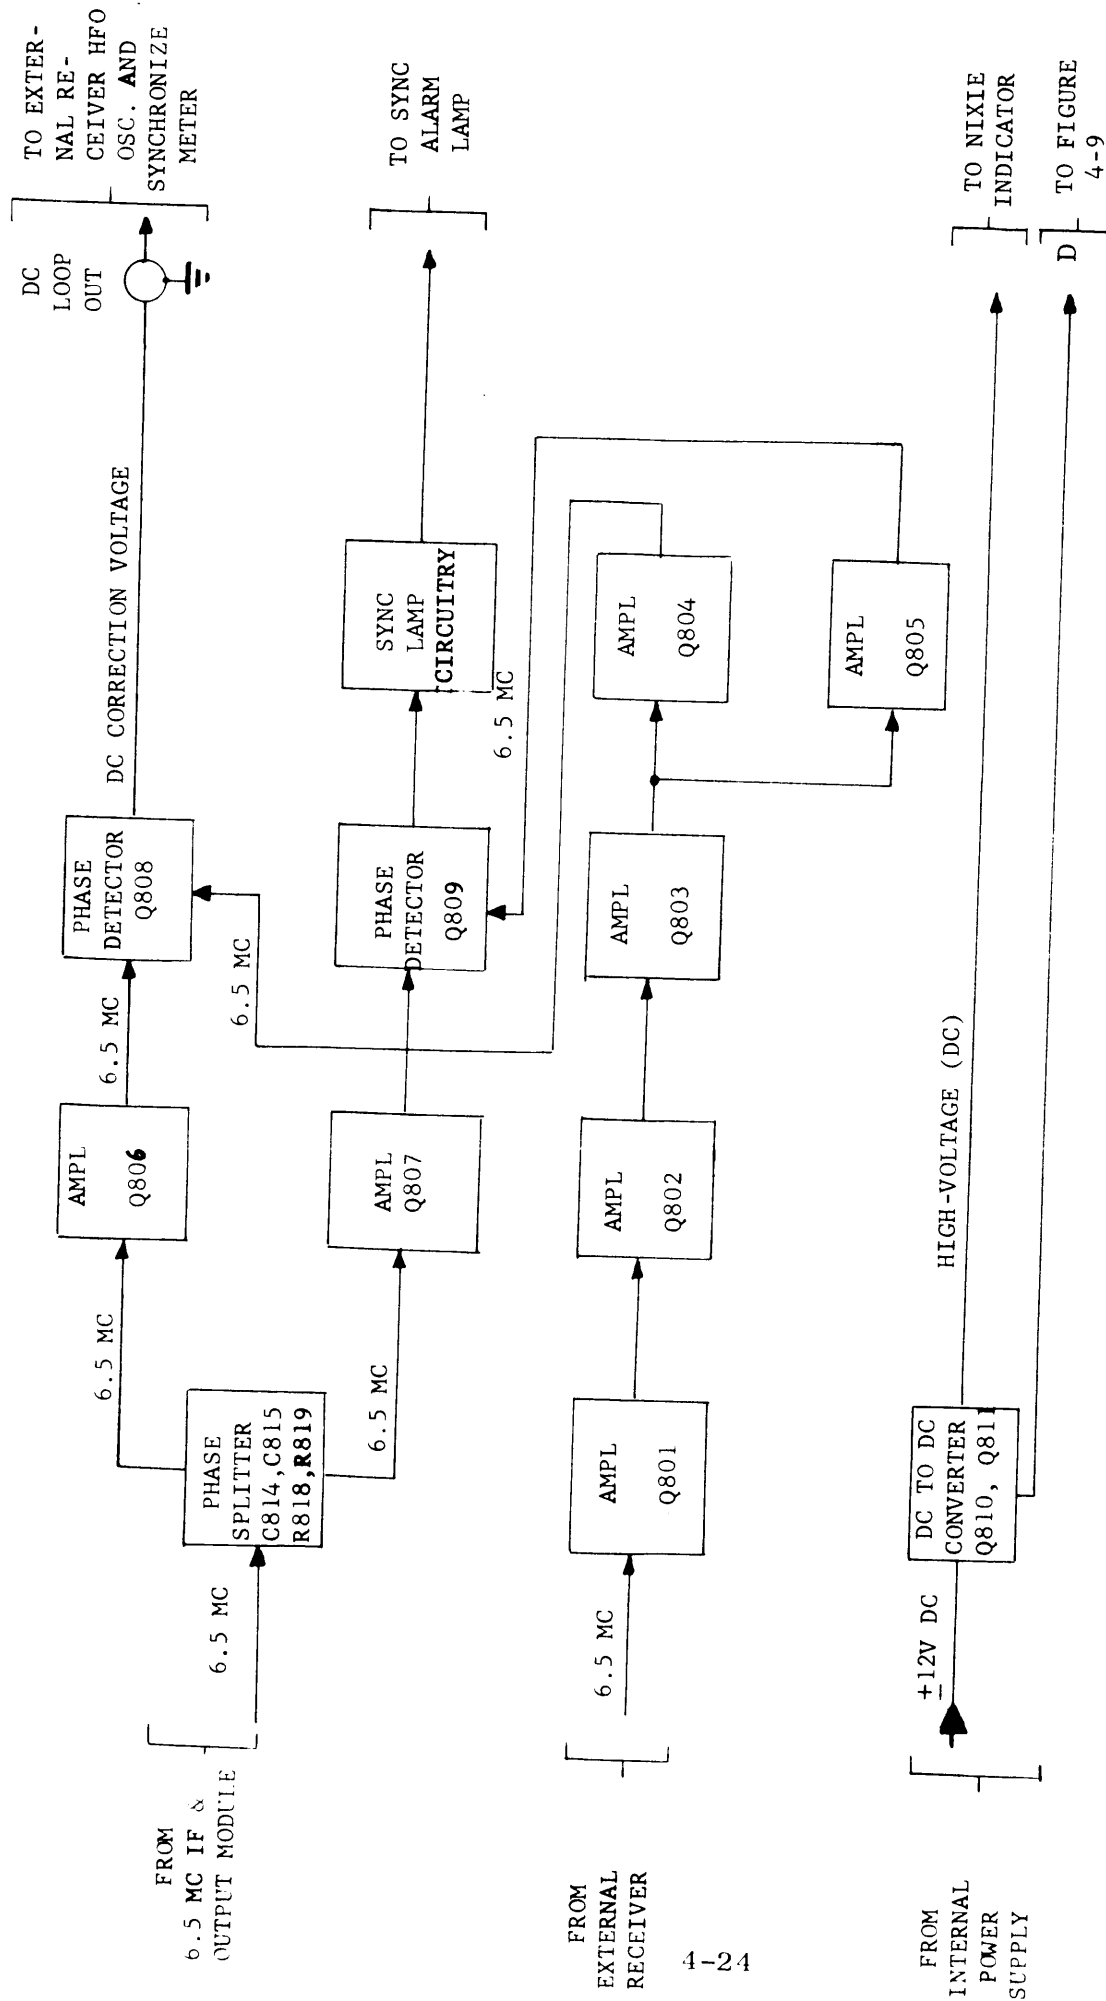

Figure 4-12. Phase Detector Module, Functional Block Diagram
i. PHASE DETECTOR MODULE. - Refer to figure 4-12. The Phase Detector Module contains the dc to dc converter circuit and the phase detector circuits. The phase detector circuits function only when they receive identical 6.5 megacycle signals from the 6.5 megacycle i-f and output module and from an external receiver. In turn, the phase detector produces a d-c correction voltage that is used to maintain the external receiver local oscillators to a high stability.